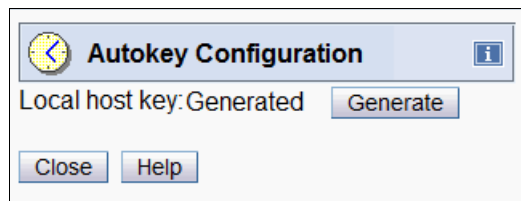

Figure 9-23 HMC: Customize Console Date and Time Generate Autokey
- The Autokey Configuration window opens (Figure 9-23). To generate keys, click **Generate**.